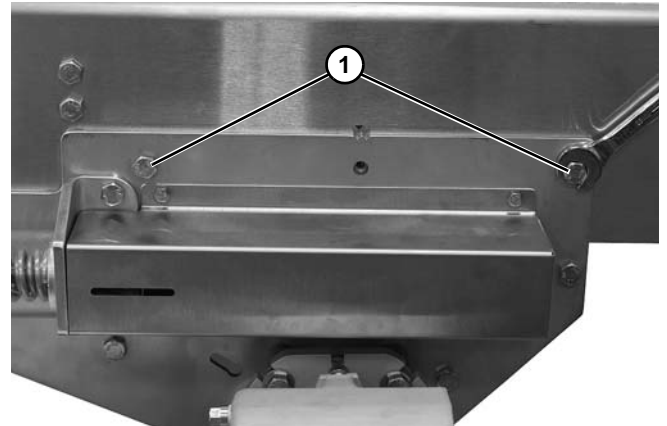

Figure 73
2. If necessary, loosen the center drive fastening screws (**Figure 73, item 1**) on the side of the center drive that requires adjustment.
4. Tighten the center drive fastening screws (**Figure 73, item 1**) to 14-16 ft-lbs (19-22 Nm).